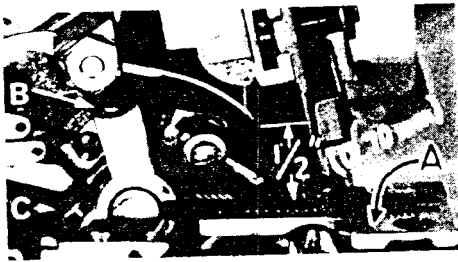

Fig. 3
With throat plate assembled in position, needle should center in the front end of needle slot. When needle is at high position, needle point should be set  $\frac{1}{2}$  inch (12.70 mm) above throat plate (A, Fig. 3) for Varieties 695B010, 011, 016, 028, 041, 043, 050, and 052;  $\frac{15}{32}$  inch (11.91 mm) for Varieties 695B-042 and 054. To align needle or set the height above the throat plate, move needle driving arm (B, Fig. 3) by loosening clamp screw (C). After needle has been set properly, tighten screw (C) and remove throat plate.